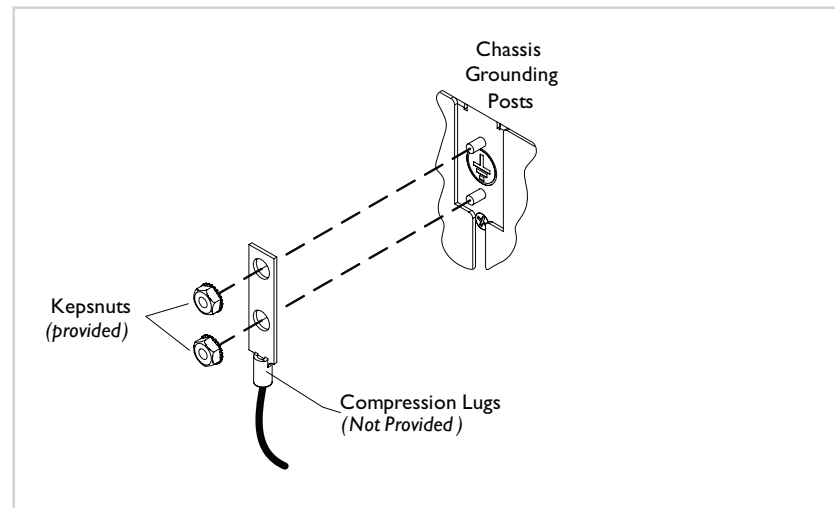

Figure 3: Chassis Grounding Hardware
2. If necessary, remove the grounding hardware from the chassis before installing or removing the Power Module. See Figure 3.